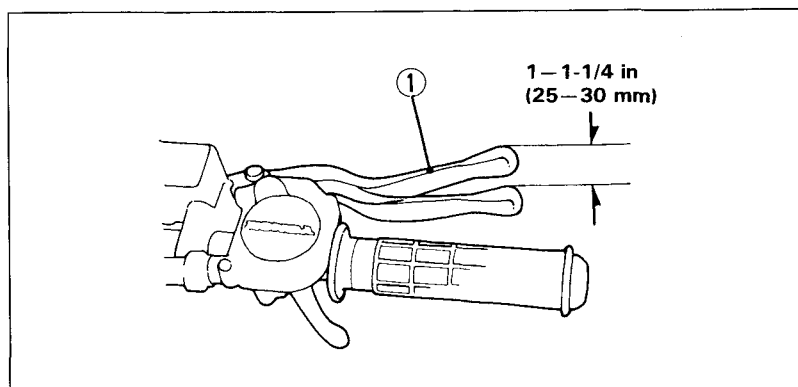

Fig. 4-21
1. Measure the distance the brake lever (Fig. 4-21) moves before the brakes start to take hold. Free play, measured at the tip of the front brake lever (1) should be within 1—1-1/4 in (25—30 mm).